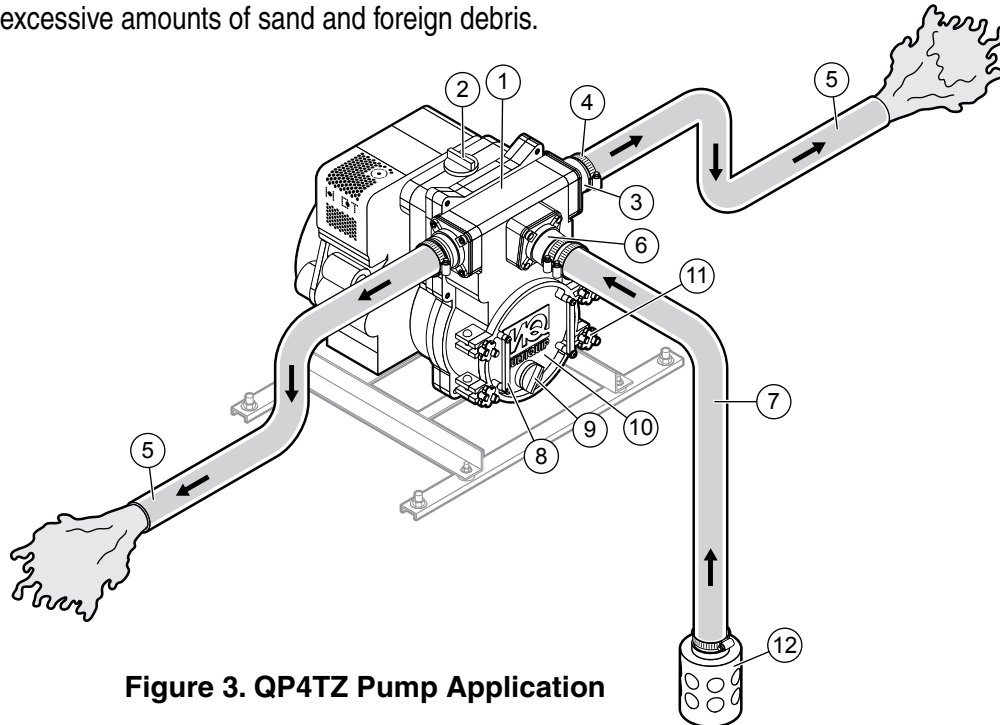

Figure 3. QP4TZ Pump Application
Figure 3 shows a typical application using the QP4TZ trash pump. Please note that this pump is intended for the removal of clean water and water containing some debris and solids. Maximum size of solids should not exceed 1.5 inch (30 mm) in diameter. **DO NOT** set strainer on bottom of water bed. Placing the strainer above the water bed will prevent the pump from drawing in excessive amounts of sand and foreign debris.
3. To prime pump, remove fill cap (Figure 3) and fill pump casing with water. If the pump casing is not filled with water before starting, it will not begin pumping.
1. Check that all hoses are securely attached to the pump. Make certain suction hose (Figure 3) does not have any air leakage. Tighten hose clamps and couplings as required.
4. Check that the discharge hose (Figure 3) is not restricted. Place hose so that it lays as straight as it is possible on the ground. Remove any twists or sharp bends from hose which may block the flow of water.
7. Make sure the suction strainer (Figure 3) is clean and securely attached to the water end of the suction hose. The strainer is designed to protect the pump by preventing large objects from being pulled into the pump.